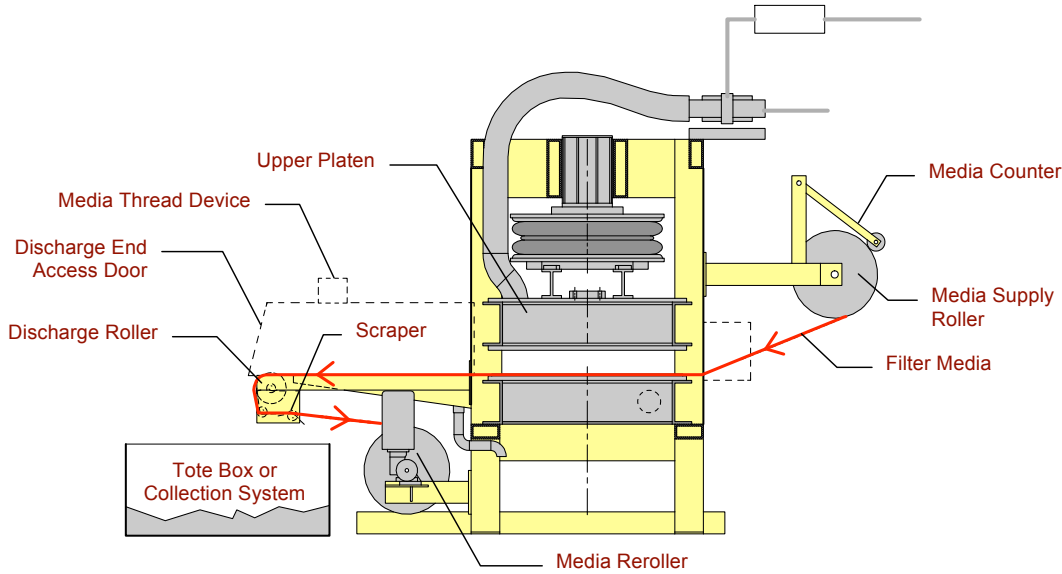

Figure 7-2 Loading Filter Media
- 10. Press the Media Jog pushbutton located on the side of the enclosure near the reroller motor. The direction of rotation of the media reroller should be as shown in Figure 7-2 below. Please note: the dirt always gets rolled to the inside on the media roll.
3. Install a new roll of filter media onto the supply reel and center the reel in the supporting brackets. The media must unwind in the direction shown in the figure 7-2.
7. Detach the new **filter media** from the **media thread device**, pull the filter media over the **discharge roller**, thread through **scraper assembly**, and wrap around the **reroller bars**, as shown in figure 7-2.